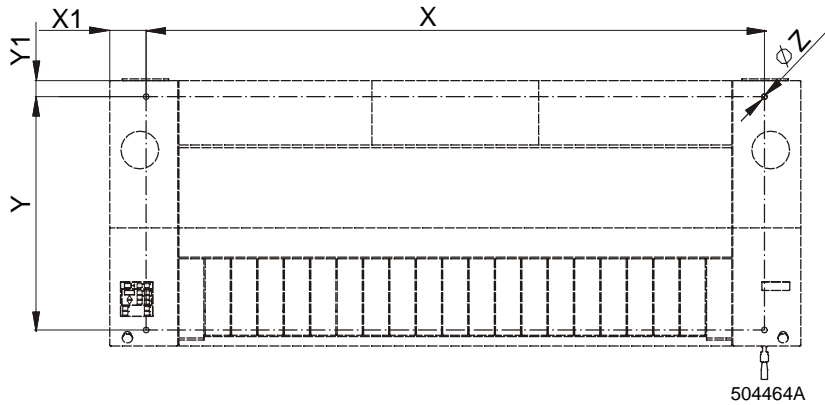

Fig. 4.3.A Anchoring dimensions are from door and frame edges
It is not necessary to anchor the ironer to the floor, however, when desired, the ironer can be anchored to the floor. In this case, use the 4 holes with a diameter „Z“ mm in the stands (fig. 4.3.A)
**THE IRONER MUST BE POSITIONED ON A FLAT AND SMOOTH SURFACE WHILE ITS INCLINATION DOES NOT EXCEED 0,5%. IT IS IMPORTANT TO INSTALL IT USING A WATER LEVEL BY PLACING THE SUPPORTS UNDER THE IRONER. CHECK THE CORRECT POSITIONING WITH A WATER LEVEL PLACED ON THE MACHINE TOP, ON THE STANDS OR PREFERABLY ON THE IRONING ROLLER (FIG. 4.3.A).**